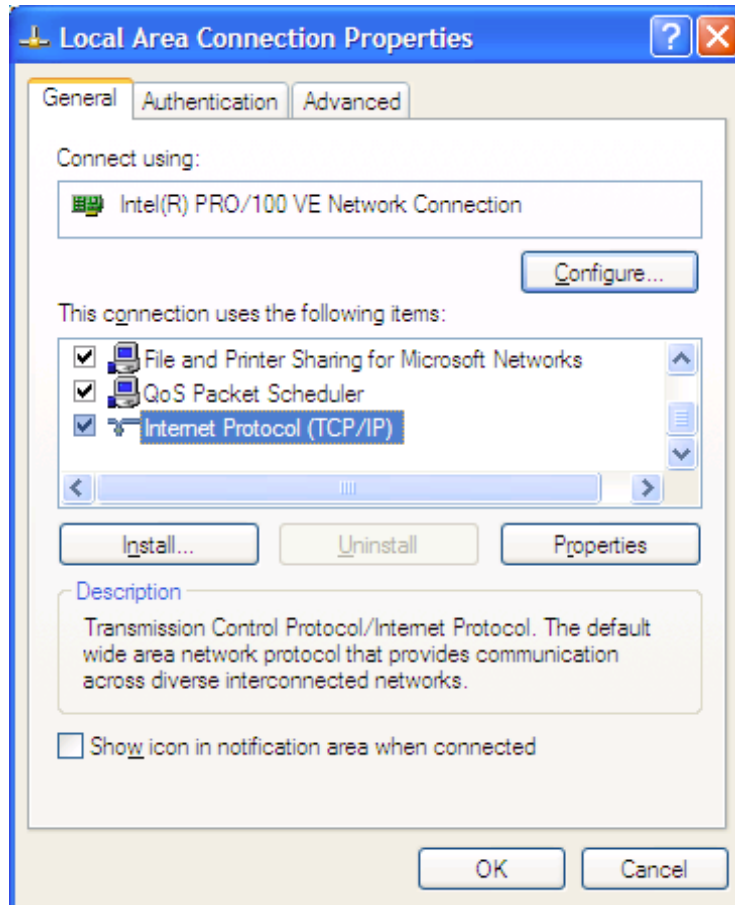

Figure 5. The Local Area Connection Properties Dialog
3. In the **Local Area Connection Status** dialog box, click the **Properties** button. The **Local Area Connection Properties** dialog box appears, as shown in Figure 5.
4. In the panel labeled **This connection uses the following items:**, select the **Internet Protocol (TCP/IP)** item to highlight it, and click the **Properties** button (see Figure 5